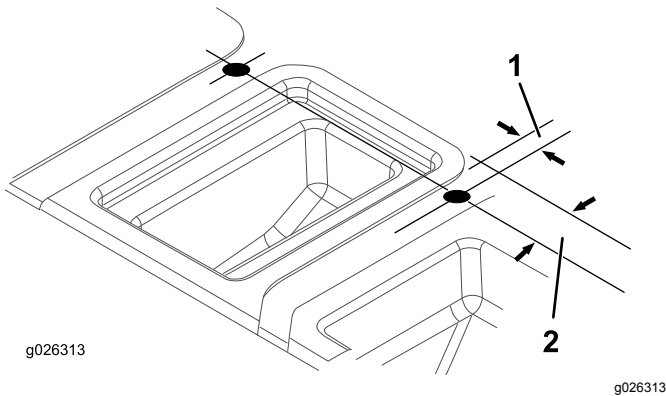

Figure 9
7. Using the dimensions shown in Figure 9, locate, mark, and drill 2 holes in the top of the seat shroud.